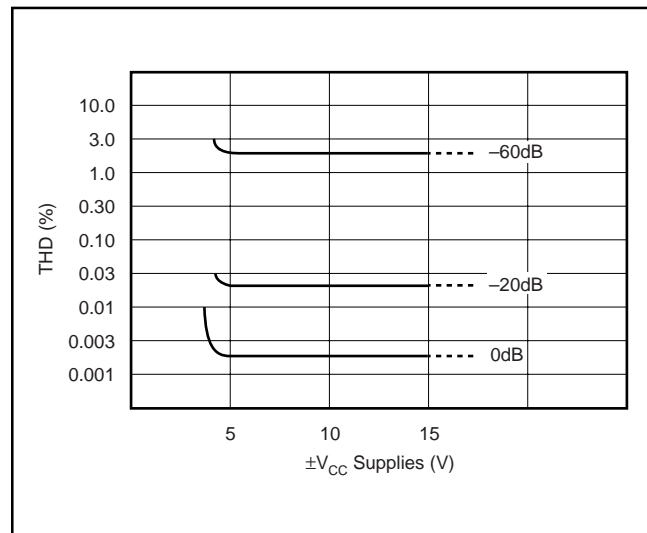

FIGURE 2. Effects of  $\pm V_{CC}$  on Total Harmonic Distortion (PCM54JP;  $V_{CC}$ s with approximately 2% ripple).
NOTES: (1) Externally adjustable. If external adjustment is not used, connect a 0.01 $\mu F$  capacitor to Common to reduce noise pickup. (2) FSR means Full-Scale Range and is 6V for  $\pm 3V$  output. (3) The measurement of total harmonic distortion is highly dependent on the characteristics of the measurement circuit. Burr-Brown may calculate THD from the measured linearity errors using Equation 2 in the section on "Total Harmonic Distortion," but specifies that the maximum THD measured with the circuit shown in Figure 2 will be less than the limits indicated. (4) Measured with an active clamp to provide a low impedance for approximately 200ns. (5) Deglitcher or sample/hold delay used in THD measurement test circuit. See Figures 2 and 3. (6) Output amplifier disconnected.
The PCM54 and PCM55 power supply sensitivity is shown by Figure 2. Normally, regulated power supplies with 1% or less ripple are recommended for use with the DAC. See also Power Supply Connections paragraph in the Installation and Operating Instructions section.